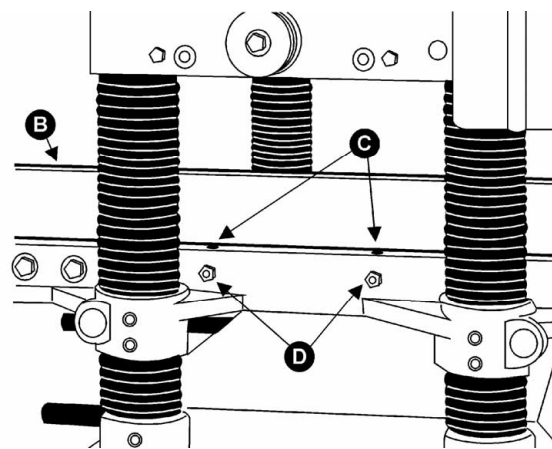

Figure 14
2. Lay a straight edge (B, Fig. 14) across both rollers.
3. On one side of the table, loosen the screws (C, Fig. 14) with a hex wrench, and turn the eccentric shafts (D, Fig. 14) to raise or lower the rollers.
4. When the proper height is achieved, tighten screws (C, Fig. 14).